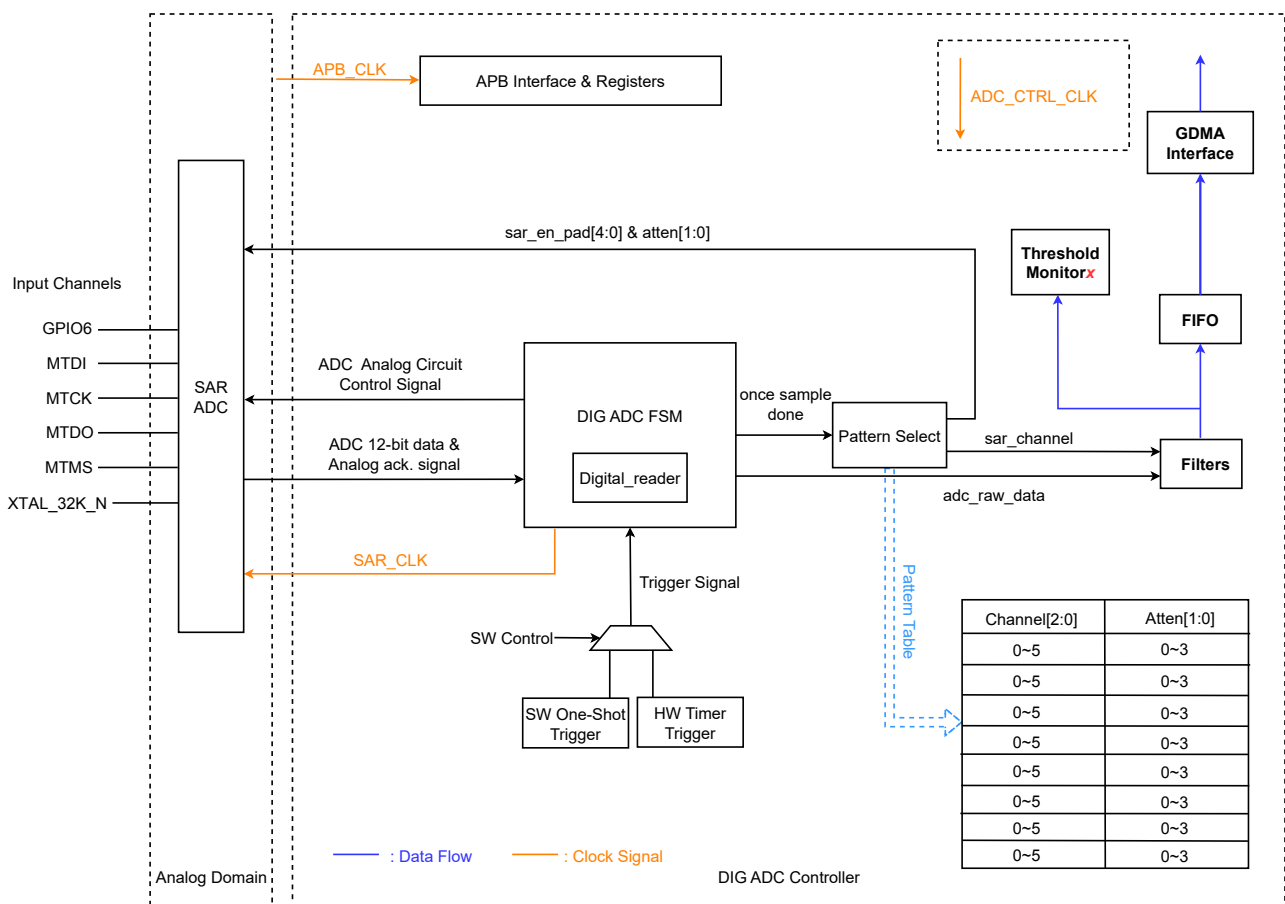

Figure 36.4-1. SAR ADC Architecture
The major components of SAR ADC and their interconnections are shown in Figure 36.4-1.
As Figure 36.4-1 shows, the SAR ADC module contains the following major functional blocks:
- Transfers the conversion result to the filter. Then the threshold monitor transfers the filtered result to memory via GDMA (see Figure 36.4-1).